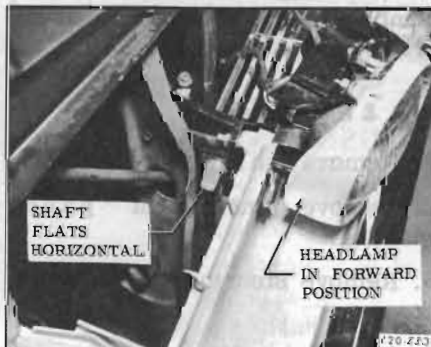
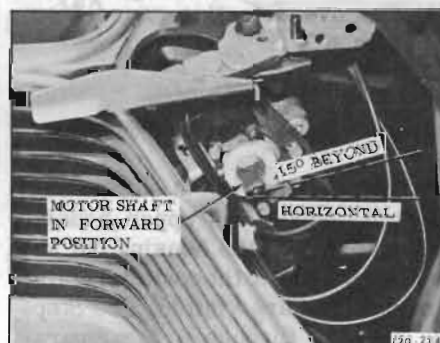

Figure 120-45—Headlamp in Forward Position
Figure 120-46—Motor in Forward Position
The headlamps are operated by an actuating motor mounted midway between the right and left headlamps on the center grille support. Short flexible shafts transmit the rotational force of the motor to each headlamp assembly. When the flexible cables are in a neutral (no wind-up) position, the flats of the motor shaft are aligned with the flats of each headlamp assembly shaft. When the headlamps are in the forward position, their shaft flats are horizontal. See Figure 120-45. If the motor shaft flats are stopped in a position 15 degrees beyond horizontal, this will provide correct wind-up of the cables to make sure the headlamps are held firmly against the forward stops. See Figure 120-46.
2. Turn headlights on. Plug in connector intermittently, "bumping" motor until flats of motor shaft are positioned 15 degrees beyond horizontal. See Figure 120-46. Unplug connector and turn off headlights.